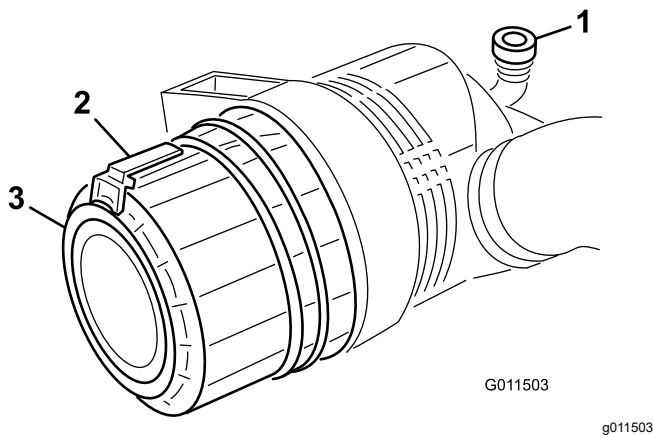

Figure 85
2. Pull the latch outward and rotate the air-cleaner cover counterclockwise (Figure 85).